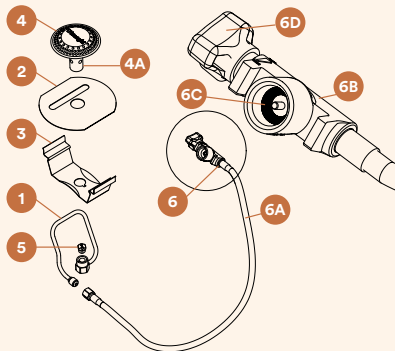
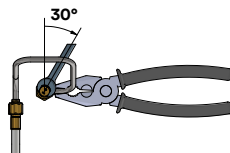
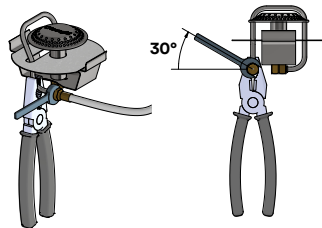

Figure 6 & Table 4. Components
Figure 7
Figure 8
- 3.4. Check that the seals (between the appliance and the gas cartridge) are in place and in good condition before connecting to the gas cartridge, see 6C in figure 6. Connect the gas cartridge outside and away from people and open fire.
- 5.1.2 Do not use the whole pre heating tube (1 in figure 6) as a lever during service as this might damage the tube. Hold the end of the tube with pliers for better grip.
- 5.2.1. Check that the O-ring in the valve (6C in figure 6) is in good condition.
- Replace/tighten the hose to the preheating tube using a 10 mm open spanner. If the hose is loose, screw by hand to stop and additionally 30° (=3-4 Nm). Do not use the whole pre heating tube (1 in figure 6) as a lever as this might damage the tube. Hold the end of the tube with pliers, see figure 8.
- 5.4.3 Unscrew the burner top (4 in figure 6). Hold the mixer tube (4A in figure 6) with pliers for better grip. Do not damage the holes in the mixer tube. Never use the whole pre heating tube (1 in figure 6) as lever.
- 5.4.4 Unscrew the jet (5 in figure 6) from the valve using an 8 mm open spanner. Hold with pliers at the housing or at the end of the pre heating tube close to the housing, see figure 7.
- 5.4.6 Refit the jet and screw it tightly. To ensure a gas seal, screw by hand to stop and additionally 30° (=3-4 Nm). Hold with pliers at the end of the pre heating tube close to the housing, see figure 7.